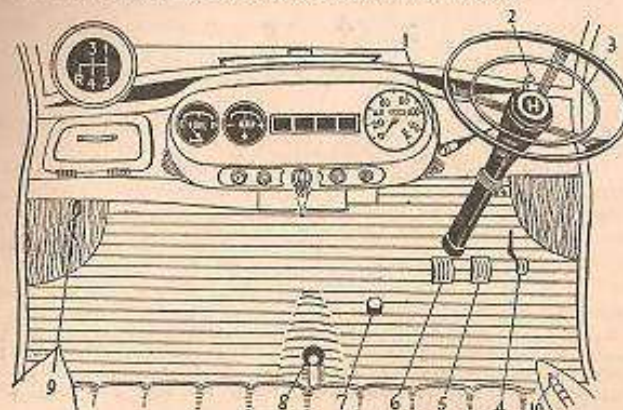
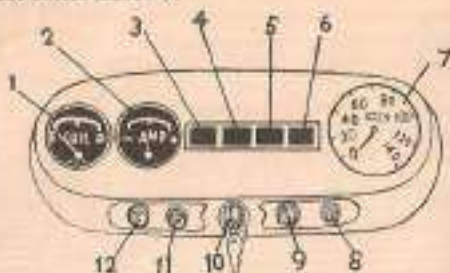

Fig. 2
Fig. 3
The combined ignition-start switch is located in the centre of the control panel (See Fig. 3 item 10) and is operated by a removal key which also locks the driver's door and luggage compartment lid. The first movement of the switch switches on ignition circuit (indicated by the red warning light—see fig. 3 item 6). Further rotation of the switch against the pressure of a spring operates the starter. On releasing the switch, it automatically returns to the starting position. The switch should be released to the starting position as soon as the engine starts running.
On the right hand side of the control panel, next to the ignition-start switch is located the lighting switch (See Fig. 3 item 9). It is two position pull-push switch. Pulling out the switch to its first position switches on the side and tail lamps; pulling the switch further out lights on the head lamps. The blue beam warning light glows when the beams are in raised position.
The panel light switch is located at the extreme right of the control panel (See Fig. 3 item 8) and is pull-push type. The light is switched on when the knob is pulled provided the side lamps are switched on.
The two windshield blades are operated by a pull-push switch marked 'W' and is located on the left hand side next to the ignition-start switch (See Fig. 3 item 11). Pull the switch knob out to bring both the blades in operation. Parking of the blades is automatic when the switch is pushed back to the 'off' position.
To enrich the mixture and assist starting when the engine is cold, pull the control knob marked 'C' located at the extreme left on the control panel (See Fig. 3 item 12).
This is the amber lamp (See Fig. 3 item 3) which glows when the ignition switch is switched on and engine is not running. It should go out when the engine is started and should remain out all the time the engine is running. Should this light continue to remain 'on' while engine running or does not light when the ignition is in the 'on' position before starting the engine, your dealer should be contacted immediately for necessary correction.
The light, located second from left (See Fig. 3 item 4), glows 'blue' when the head lamps are on and the beams are in the raised position in order to remind the driver to dip for approaching traffic.
This is the small 'green' lamp located next to the blue main beam warning lamp (See Fig. 3 item 5). Whenever the flashing direction indicator lamps are operated by moving the small centrally located lever on the steering hub (See Fig. 2 item 2), the flasher warning lamps also lights on and serves as a warning, should any failure occur in the system.
This is the small 'red' lamp located at the extreme right hand side and next to the green flasher warning light (See Fig. 3 item 6). Whenever the ignition is switched on, the lamp lights up. It should go out as soon as the engine speed is increased. Should it fail to do so ascertain that dynamo belt is not broken or loose. If the belt is undamaged and is not loose, the dynamo is not charging. Electric circuit should be examined for location and rectification of the fault.
The speedometer is situated on the right-hand side of the instrument panel (See Fig. 3 item 7) and gives indication of the total distance travelled.
This is the small 'green' lamp located next to the blue main beam warning lamp (See Fig. 3 item 5). Whenever the flashing direction indicator lamps are operated by moving the small centrally located lever on the steering hub (See Fig. 2 item 2), the flasher warning lamps also light on and serve as a warning, should any failure occur in the system.